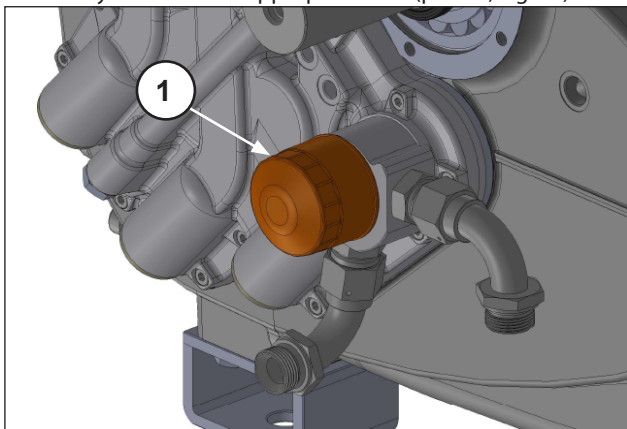

Fig. 17
Undo it by hand or with appropriate tool (pos. ①, Fig. 17).